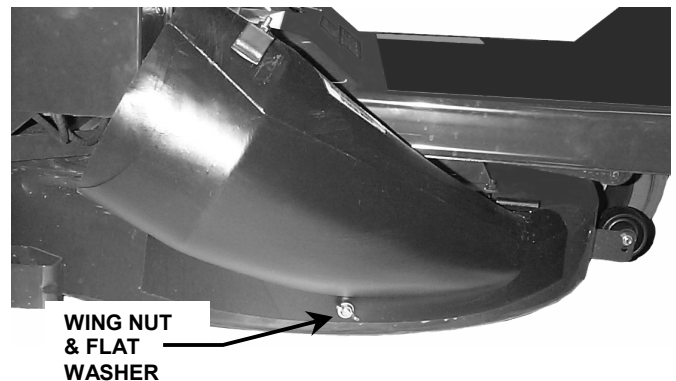

FIGURE 1.6
- Hold the adapter in front of the deck. Align the adapter lugs with the lug retainers in the hinge. Push or lightly tap front of adapter towards the rear until tight against deck. See Figure 1.6.
- Install one of the previously removed bolts into the hole in the center of the discharge opening and through the hole in the adapter. Secure the adapter to the deck with a flat washer and wing nut. See Figure 1.6.